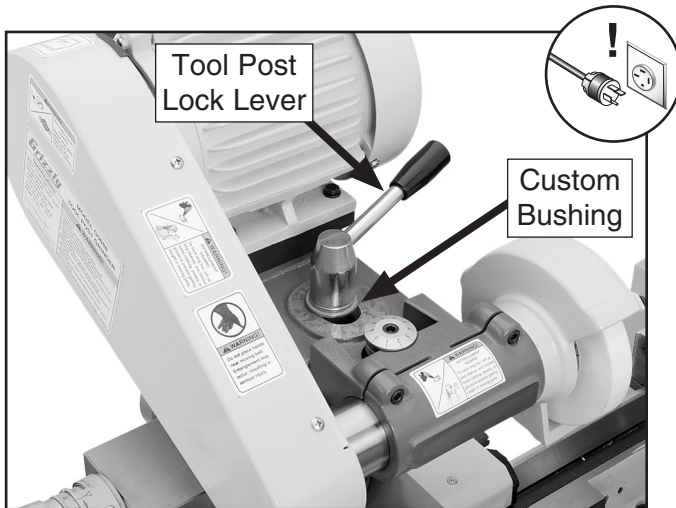

Figure 7. Tool post nut and example of a bushing.
6. Use the tool post nut or lock lever to firmly secure the grinder in place, as shown in **Figure 7**.